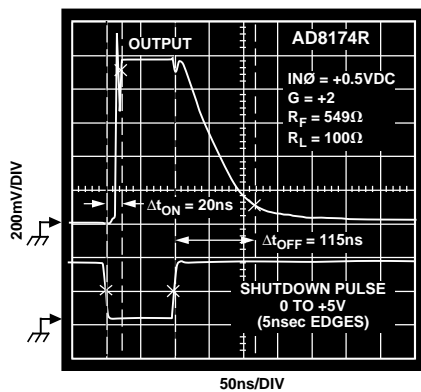

Figure 6. Shutdown Switching Characteristics
³AD8174 only. $\overline{\text{ENABLE}}$ pin is grounded. Shutdown (SD) pin is driven with 0 V to +5 V pulse (5 ns rise and fall times). State of A0 and A1 logic inputs determines which channel is activated (i.e., if A0 = Logic 1 and A1 = Logic 0, then IN1 input is selected). Set IN0 (or IN2) = +0.5 V dc, IN1 (or IN3) = -0.5 V dc, and measure transition time from 50% of SD pulse (+2.5 V) to 90% of the total output voltage change. In Figure 6, Δt_{OFF} is the shutdown assert time, Δt_{ON} is the shutdown release time.